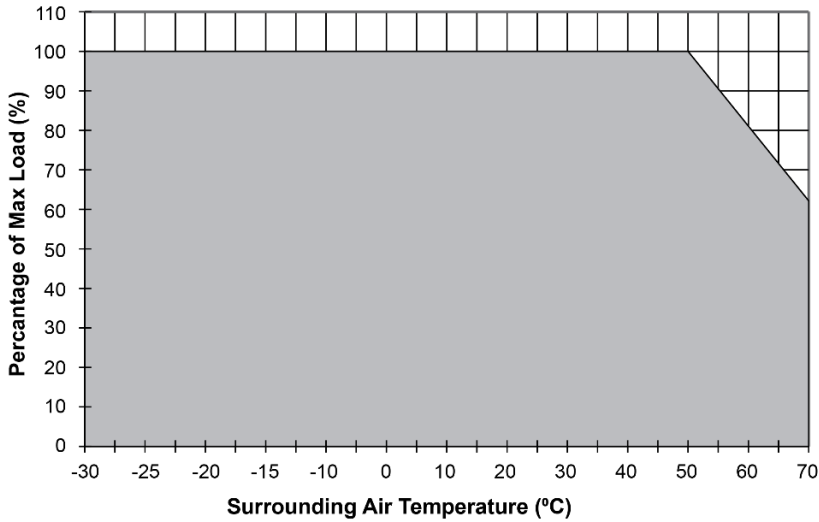

Fig. 1 De-rating for Horizontal Mounting Orientation
1. Power supply components may degrade, or be damaged, when the power supply is continuously used outside the shaded region, refer to the graph shown in Fig. 1 & Fig. 2.